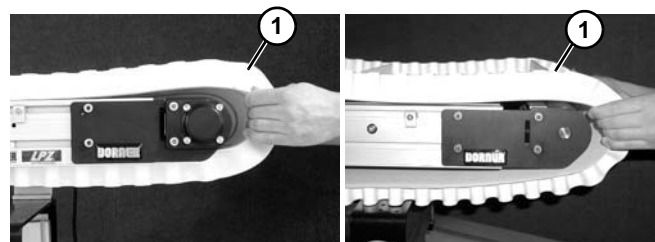

Figure 60
3. Install belt (**Figure 60, item 1**) on conveyor. Lift conveyor slightly to avoid pinching belt on temporary support stands.